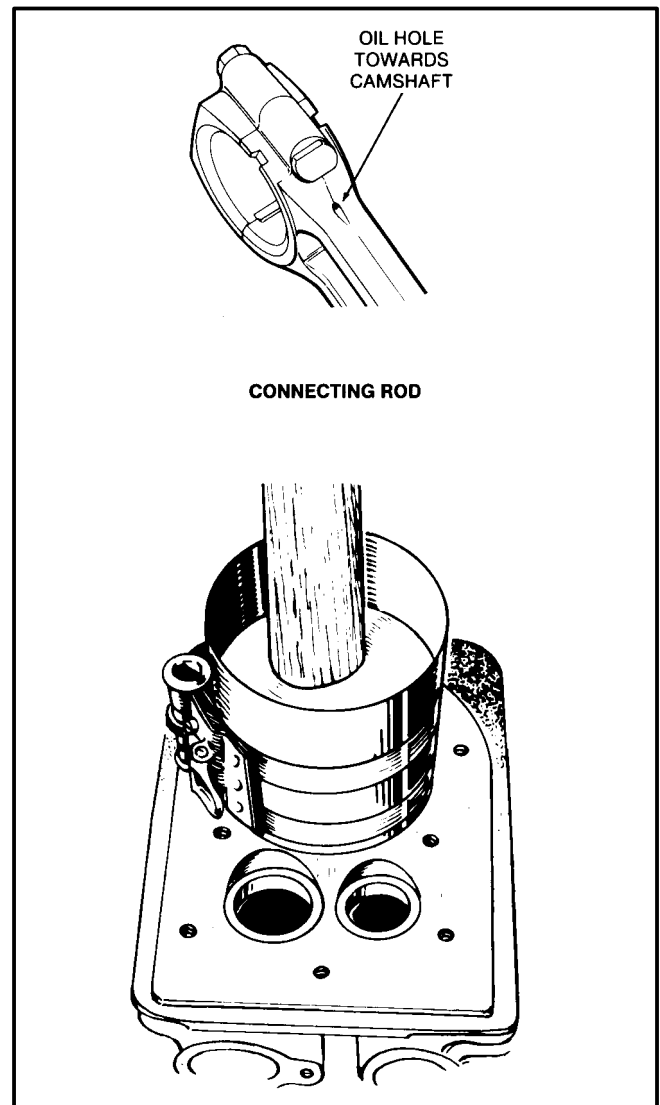

FIGURE 10-29. INSTALLING PISTON AND CONNECTING ROD
2. Lubricate the number one piston assembly and the inside surface of the cylinder. Compress the rings with a ring compressor (see Figure 10-29).
4. Tap the piston down into the bore with the handle end of a hammer until the connecting rod is seated on the journal (see Figure 10-29). Install the bearing cap on the rod.